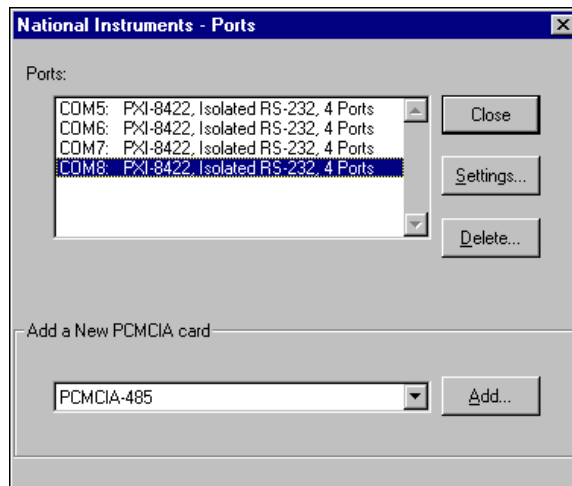

Figure C-6. Selecting an Interface to Uninstall
2. Select **Start»Settings»Control Panel** and double-click the **niports** icon. From the **Ports** list, select the port of the board you want to uninstall, as shown in Figure C-6.